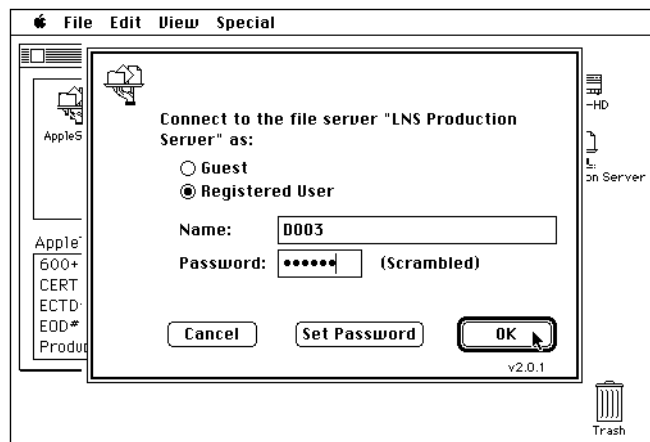

Figure 2
- 5.0 The message "Connect to the file server "LNS Production Server" as: Registered User" will appear. See Figure 2. The dyno number will be displayed in the "Name" box. Type in the correct password and select the "OK" button.